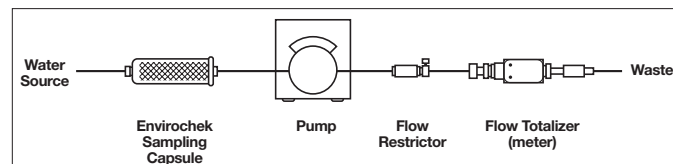
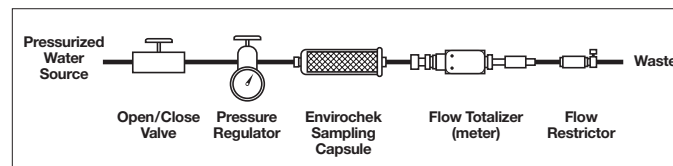

Figure 1a: Sampling system with pump
Figure 1b: Sampling system without pump
- 2.2 The exact installation is dependent on whether or not the water is from a pressurized water source. If the source is not pressurized, a pump is required. If a pump is required, the system will appear as in Figure 1a. If a pump is not required, the system will appear as in Figure 1b.